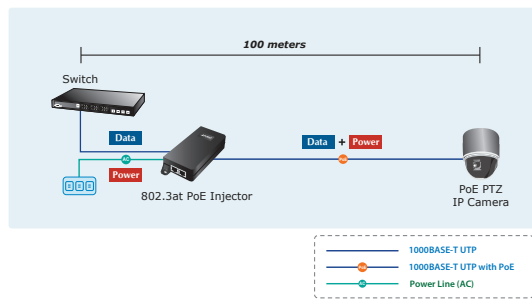

Figure 2: Connection to IEEE 802.3at / 802.3af Devices
** The 802.3at PoE Injector can directly connect with any IEEE 802.3at / 802.3af end-nodes, such as PTZ IP and speed dome cameras, color touch-screen Voice over IP (VoIP) telephones, multi-channel wireless LAN access points, etc. The installation is shown in Figure 2 below.